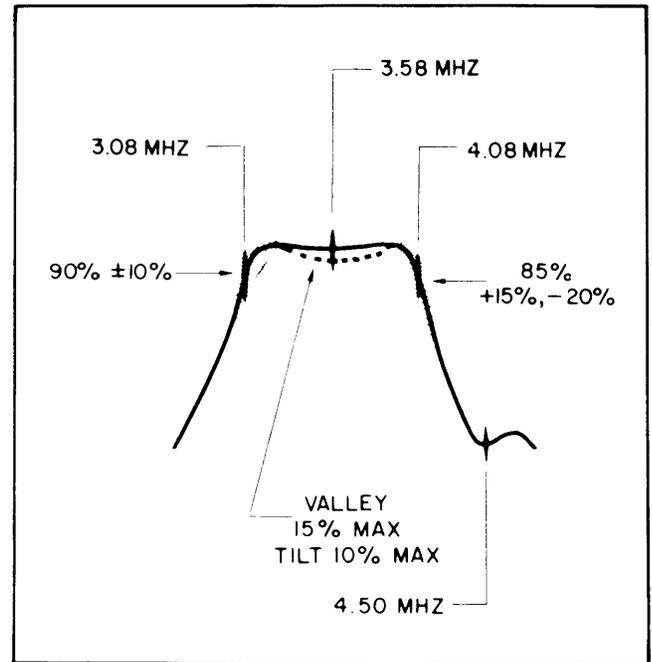

Fig. 37. Typical chroma response curve, showing tolerance ranges of response levels.
6. A response curve similar to that shown in Fig. 37 should be seen. Select the marker generator frequencies of interest. Refer to the manufacturer's instructions for bandpass specifications and alignment procedure.